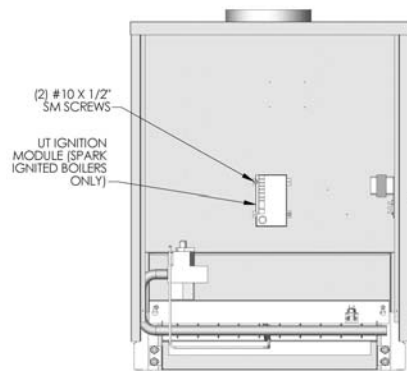

Figure 7.4
4. Mount the ignition module as shown in Figure 7.4.